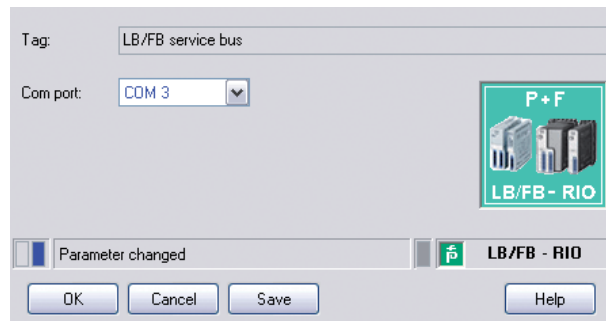

Figure 5.3: Setting the COM port
7. Choose the required COM port (view Figure 5.3 on page 37).